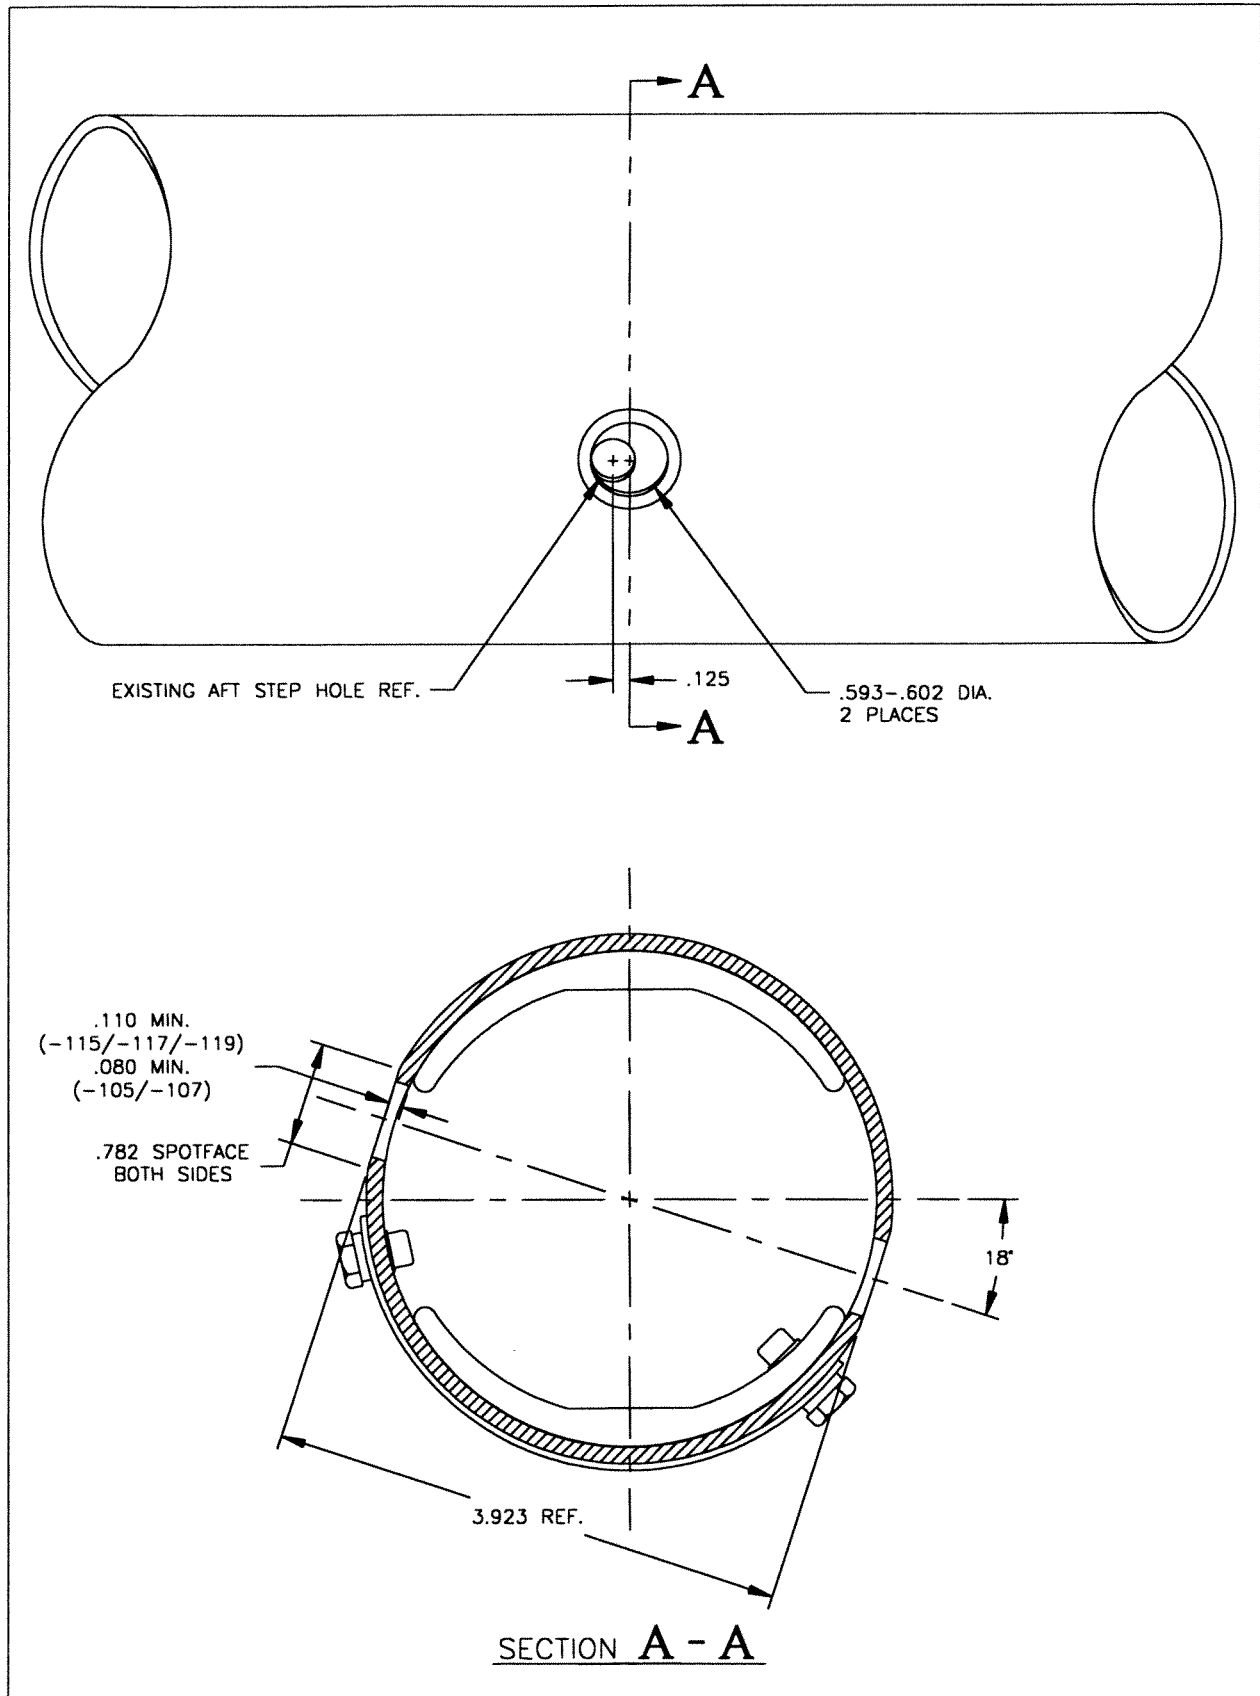

Figure 1
- Using the 19/32" Drill Bit, drill a hole .125" aft of the existing holes centerline. Once the new hole is drilled it should be used as a guide for the 25/32" Spotface Drill Bit with 19/32" Dowel Pin (or equivalent). Repeat process for both sides of the Skid Tube Assembly L/H. See Figure 1.
Apply pressure gently when drilling the Spotface on the Skid Tube. Only remove enough material to allow the Bushing (412-319-121) to fit flush against the Skid Tube. Refer to dimensional requirements of Figure 1.